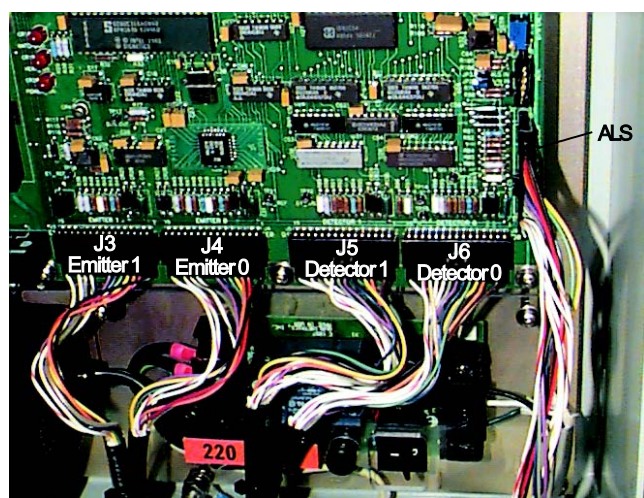

Figure 2-17. After feeding the ALS cable through a strain relief, connect it to J7 on the controller board.
9. Plug the connector into J7 on the controller board as shown in **Figure 2-17**.